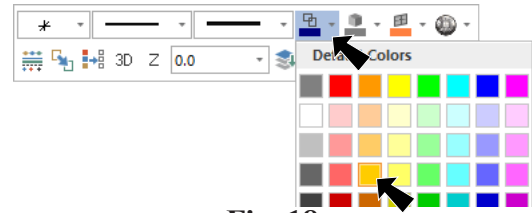

Fig. 18
Step 1. Sketch wood base **tangerine**. **Right click** in the graphics window and on the Mini Toolbar click **Wireframe Color**  drop down arrow and select **tangerine**, **Fig. 18**.